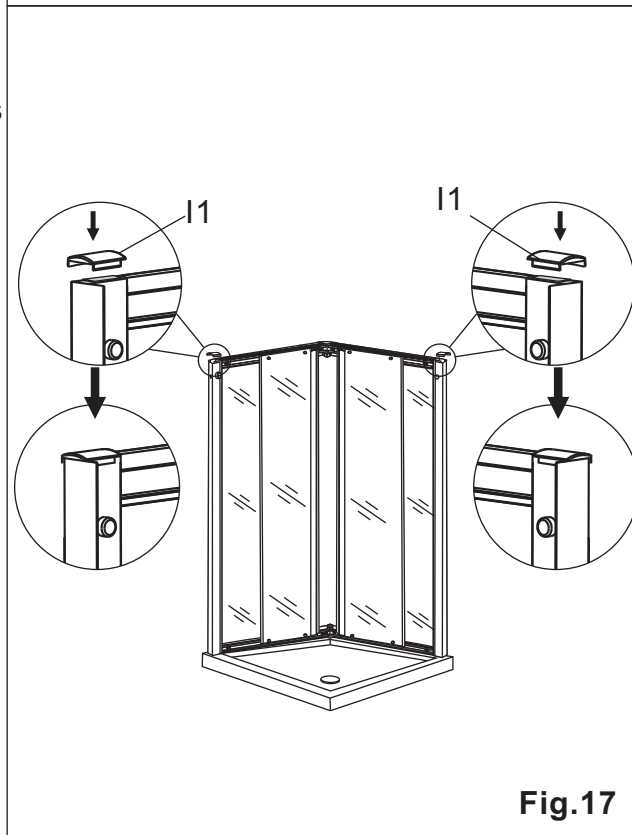

Fig.17
17. Fit the left and right wall profile caps (I1) to the top of both side profiles. See **Fig.17**.